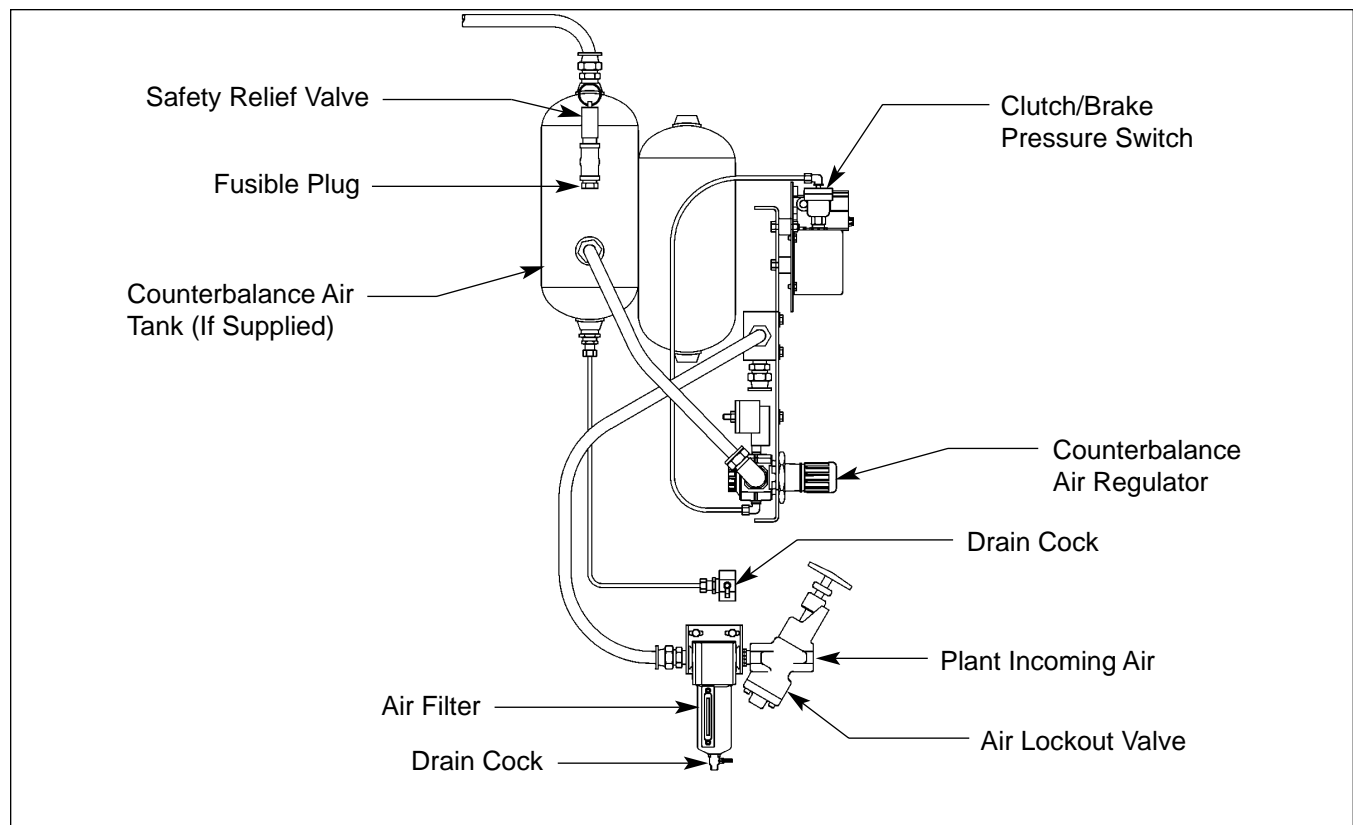
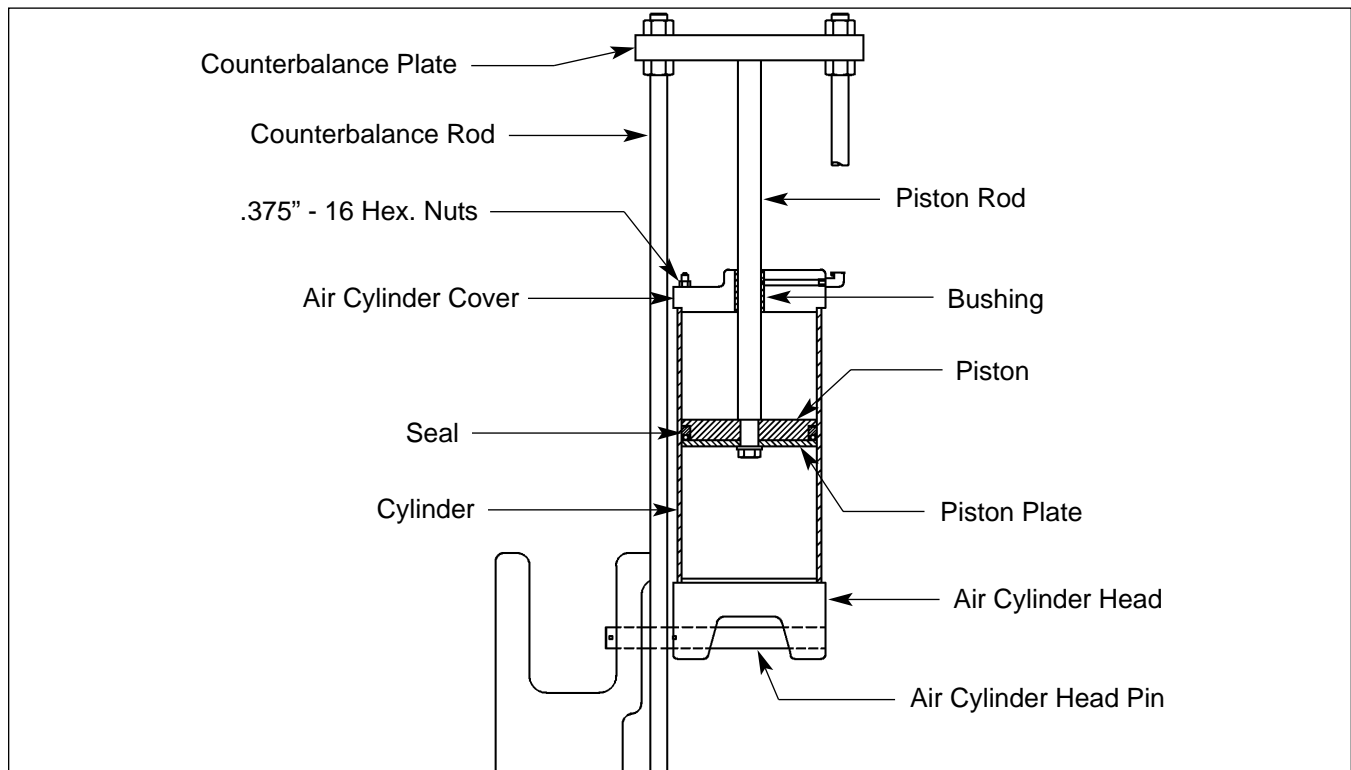

Figure 2E. Pneumatic system components located inside press frame.
Figure 6E. Counterbalance cylinder.
An air lockout valve is provided on the press to control the air supply to the press. It is normally on the left-hand rear of the press. (See Figure 2E.) Shut **OFF** the air supply to the press, close and “lock” the valve, and relieve any residual pressure **before** attempting to service any pneumatic system component. Conversely, make certain the valve is fully open and air pressure restored **before** attempting to operate the press.
Moisture may enter the pneumatic system along with the shop air supply or form within the system as a result of temperature or humidity changes. Seasonal weather changes can also cause large amounts of moisture to form quickly. On Model 101 OBI/OBS Series presses, an air filter is provided to trap moisture and foreign matter which may enter the pneumatic system with incoming air. The filter is located on the left-hand rear of the press. (See Figure 2E.) A drain cock, located at the bottom of the filter, may be opened whenever filter drainage is necessary. Before opening the drain cock, close the air lockout valve and release system pressure.
Counterbalances on mechanical power presses are used to offset or counterbalance the weight of the press slide and upper die. Air counterbalances are usually air cylinders mounted in the press frames and connected by the cylinder rod or rod brackets to the press slide. (See Figure 6E.) Included in the system is a safety pop-off valve, fusible plug and water drain plumbed to the cylinders. (See Figure 2E.) A check valve is usually found within the system to prevent a sudden loss of pressure (located just after the regulator.) A pressure switch or transducer should also be included (also located after the regulator) to detect when the pressure falls below a minimum level to prevent press operation.
6. Remove the two (2) 1.00" - 8 Hex. Nuts that secure the counterbalance plate to the counterbalance rods. Remove the counterbalance plate. (See Figure 6E.)
8. Remove four (4) .375" - 16 Hex. Nuts that secure the air cylinder cover to the cylinder. Remove the air cylinder cover.